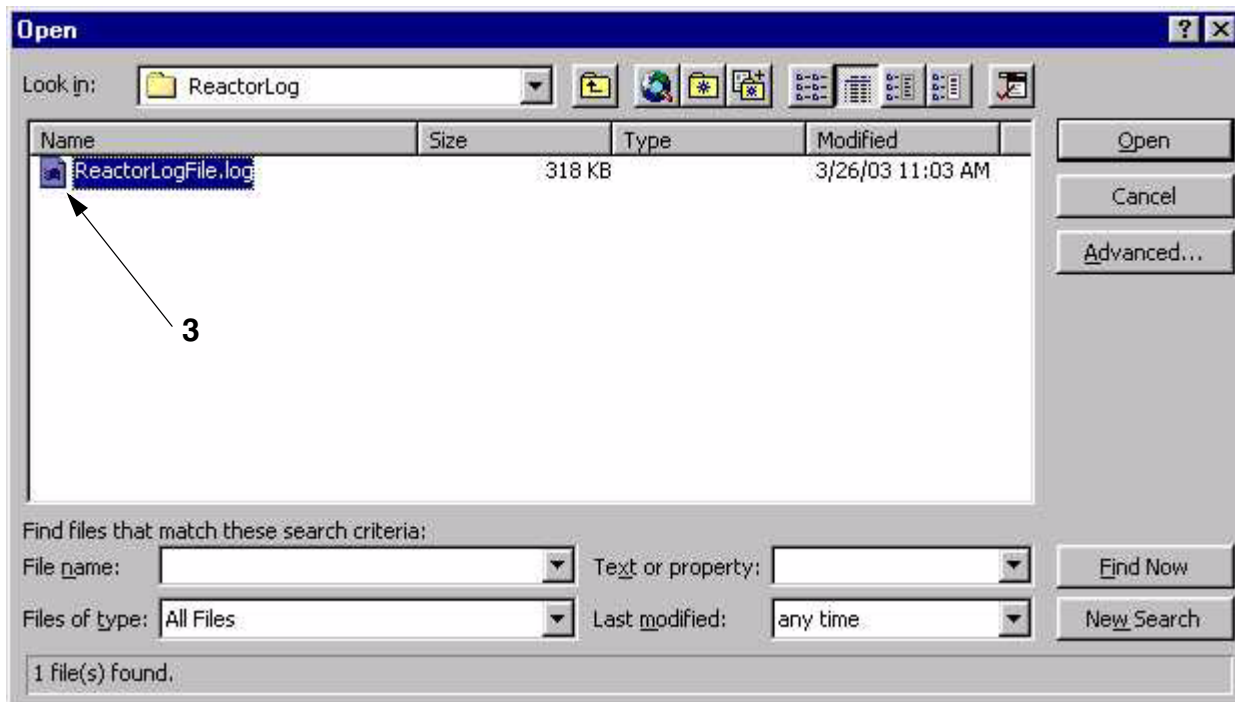

FIG. 3. Reactor Log File Window
3. Locate saved ReactorLogFile.log. See FIG. 3.